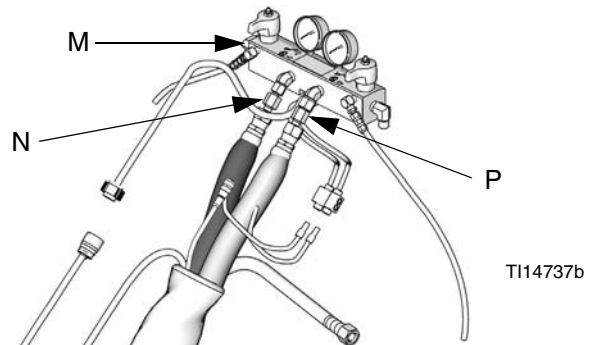

FIG. 18
- Grease with Fusion grease and connect fluid hoses to proportioner fluid manifold (M). Red for hardener, blue for resin. See FIG. 18.